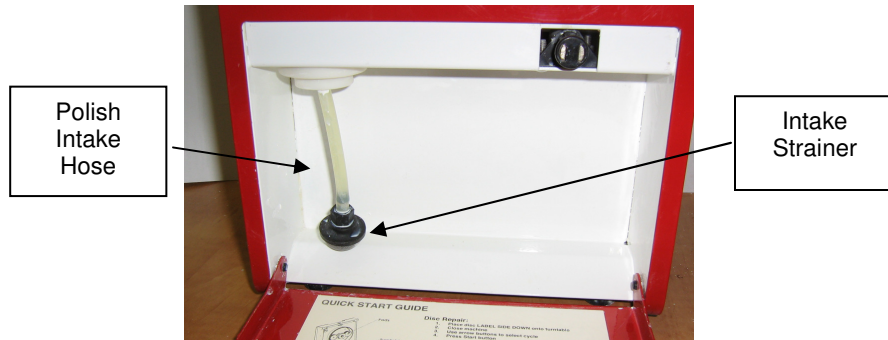

Figure 2: Polish Compartment
- Remove the bottle cap (keep the cap for sealing and storing remaining polish after use). Locate the Polish Intake Hose and Intake Strainer hanging inside the compartment on the left-hand side (see Figure 2).